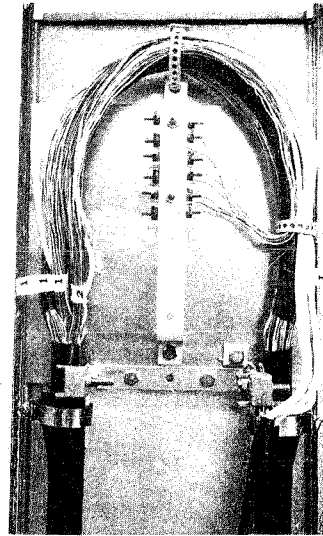

Fig. 8—Dressing Terminal Block Leads
- (1) Separate the cable pair assigned from the assignable count binder group. Make certain that these conductors are not broken or damaged.
- (2) Take the terminal block leads which are connected to the binding posts and dress them through the two B Cable Tie retainers to a position in the straight portion of the cable run as shown in Fig. 8. This will provide the necessary length required for fusing protection and sufficient slack if rearrangement of the block lead should be required.
- (3) Bridge the tip and ring terminal block wire leads to the tip and ring conductors